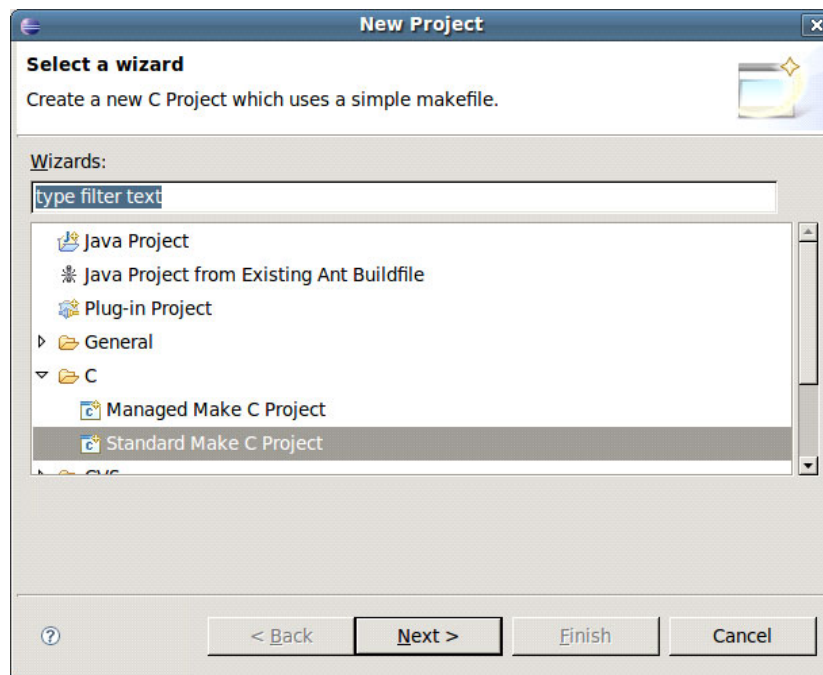

Figure 1. Eclipse IDE New Project Wizard
2. In the new project wizard, select C > Standard Make C Project as shown in Figure 1 and click Next.